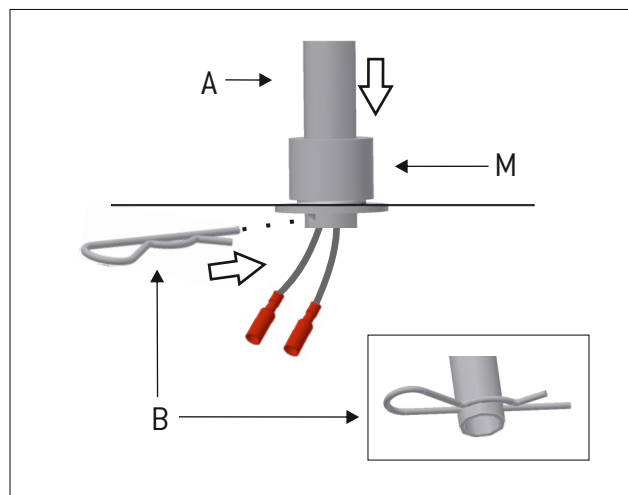

Figure 12
- 12 - Match the number of the electrical cables that are inside each stem (A) with the quantity of cables coming off the bracket. Insert the stems through the support holes (M) enough to be able to insert the clip (B). Insert the pin through the hole, between both cables. Make sure it holds the stem in place. Figure 12.